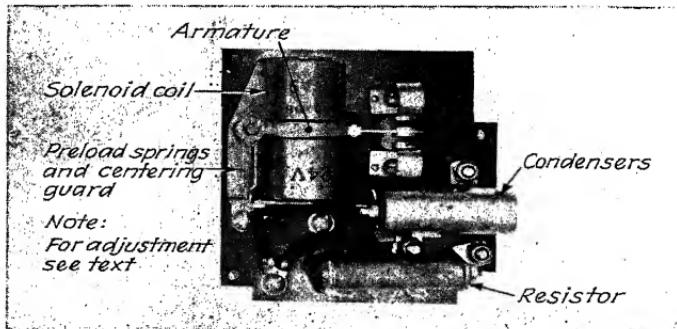

FIG. 73.—Relay for governor installation—early damped type.
**Relay (Figs. 73 and 74).**—The relay should be mounted in the engine compartment in an accessible location, preferably on the fire wall.